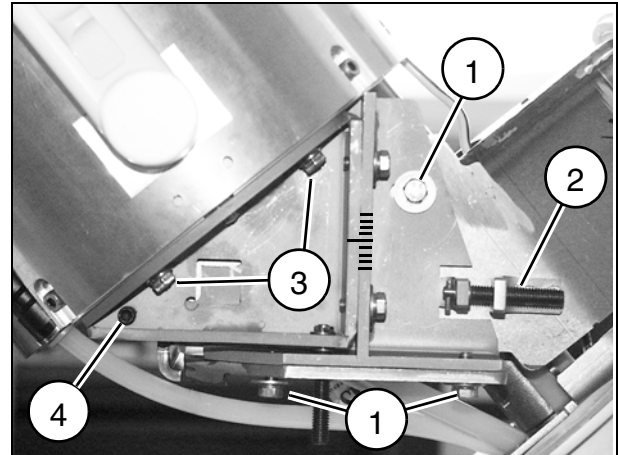

Fig. 2
- **A:** Loosen the screws (1/Fig. 2) on both sides.
Shift it with the screws (2/Fig. 2).
Retighten the screws (1/Fig. 2) on both sides.
- **B:** Loosen the screws (3/Fig. 2) on both sides.
Shift it with the screws (4/Fig. 2).
Retighten the screws (3/Fig. 2) on both sides.